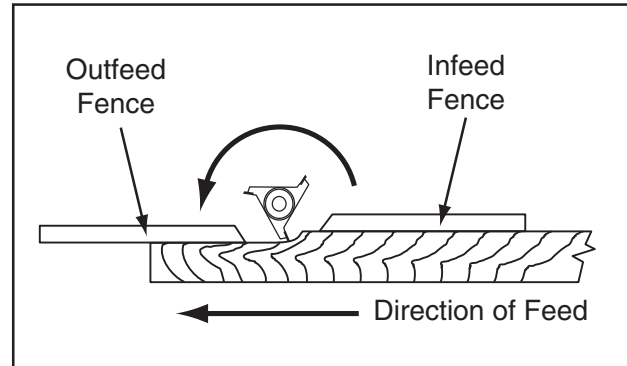

Figure 29. Fence boards properly configured for full face removal.
8. Adjust and secure the outfeed fence to support the profiled edge of the stock, as illustrated in **Figure 29**.